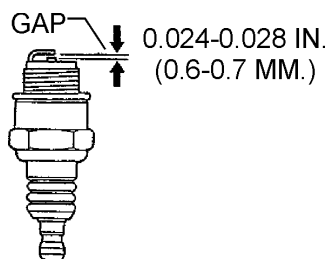

Figure 27. Spark Plug Gap
- Remove and clean the spark plug (Figure 27), then adjust the spark gap to 0.024 ~0.028 inch (0.6~0.7 mm). This unit has electronic ignition, which requires no adjustments.